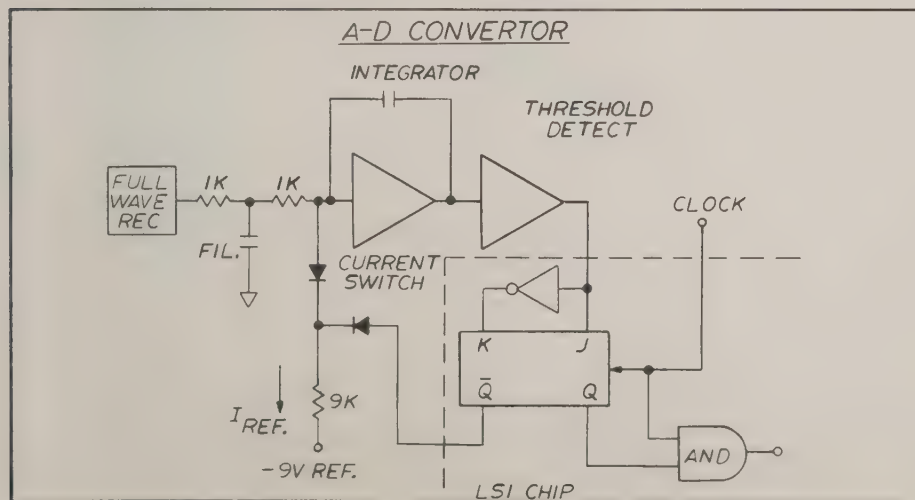

FIGURE 14. A/D Converter Block Diagram
a. A-to-D Converter. The a-to-d converter operates on a charge balancing principle. The circuit operates only with unipolar inputs. A block diagram of the converter is shown in Figure 14. The positive output of the rectifier tends to drive the integrator output negative (amplifier QA104). The rate of integration is a function of the input, resistor RN103-2 and capacitor C120. As the integrator goes negative the threshold detector (amplifier QA105) output goes to a positive level. A positive level represents a "1" at the J input of the J-K flip-flop (the K input is a "0" due to the NAND gate). The charge and discharge periods for the integrator are determined by the state of the $\bar{Q}$ output on the J-K flip-flop. When the $\bar{Q}$ output is high, diode QA107-1 is back biased off and the integrator can only be charged by the FWR output. When the $\bar{Q}$ output is low, diode QA107-1 is forward biased and discharge of the integrator is possible. Since the Q and $\bar{Q}$ states can be changed only when a clock pulse is present, the charge/discharge periods are a function of the clock frequency as well. The a-to-d converter operates in a free running manner. The timing period is a total of 2016 counts. The reading is derived by counting the total number of clock pulses in the discharge period over a span of 2016 counts. This is accomplished by an AND gate as shown in Figure 20. For example, a 1 volt input would result in a total discharge period of 1000 counts. An input of 250 millivolts would represent 250 counts out of 2016. However, an input of 2.1 volts would cause the 167 to uprange since the total count would exceed 2000 which is the upranging level. The input filter ahead of the integrator provides up to 18 dB filtering at line frequencies. (The total normal mode filtering is approx. 55 dB at 60 Hz.)